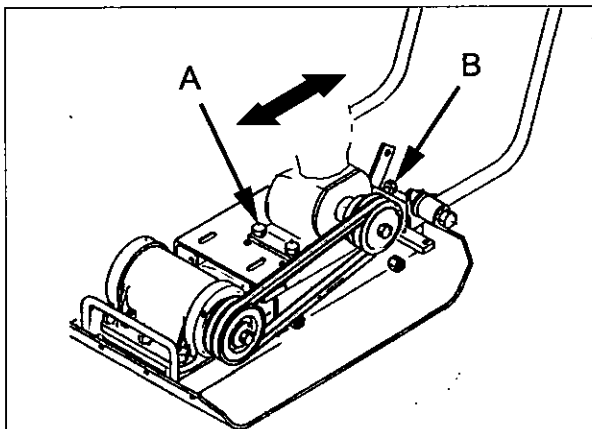

Figure 13-2 - V-Belt Alignment Adjustment.
1. First loosen the engine mounting bolts 'A', refer Figure 13-2.